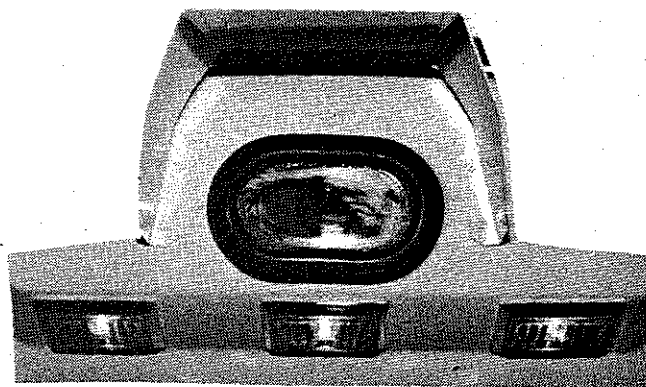

Figure 2-14. CCTV Camera Port
1. **Power and Sound Controls** — These controls, shown in figure 2-14 and described in the Cassette Deck section, are used in the radio mode as well. (See preceding section on Controls, paragraphs 2 through 5, for power **ON/OFF**, volume balance, fader, bass and treble controls, and paragraph 11 for the loudness **LD** control. The **FM/Stereo** light (18) will go **ON** when stereo radio is **ON**.
2. **To Select waveband** — Press **IN** the **AM/FM** button (9) to get **FM**, and press to release for **AM** (button **out**). The appropriate **AM** or **FM** light (21 or 22) on the left side of the glass dial will indicate the selected waveband.
- I. **Manually** — Turn the tuning knob (3) to left or right and **release**, to change frequency by steps. To scan frequencies, **turn** the knob to left or right and **hold**. It starts slowly, then increases speed of scan. In either method, the clock dial will indicate the frequency.
- CCTV camera, located in the rear of the coach, figure 2-14.